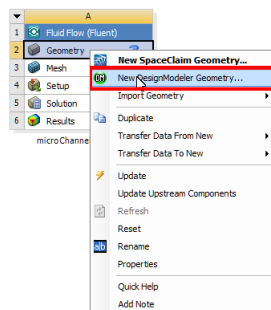

Figure 4: New geometry with DesignModeler.
Within the Fluid Flow (Fluent) component in WB, right click on *Geometry* and click on *New DesignModeler Geometry...* to define a new geometry with Design Modeler (DM), as illustrated in figure 4.